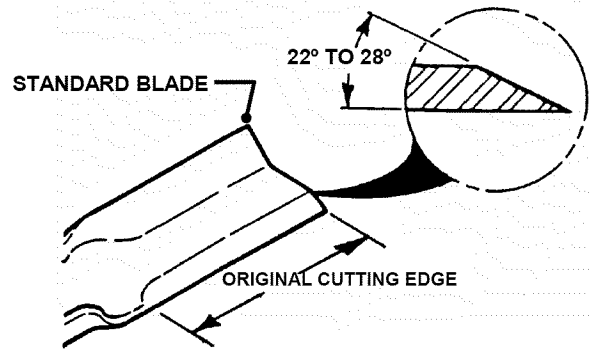

FIGURE 4.24
5. If a blade is in good condition, sharpen cutting edge at an angle of 22 to 28 degrees. DO NOT sharpen beyond existing cutting edge. Replace blades not in good condition. See Figure 4.24.